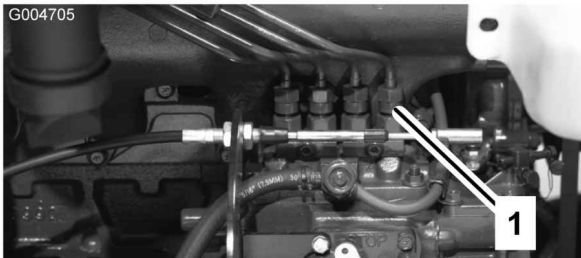

Figure 52
1. Loosen the pipe connection to the Number 1 injector nozzle and holder assembly at the injection pump (Figure 52).